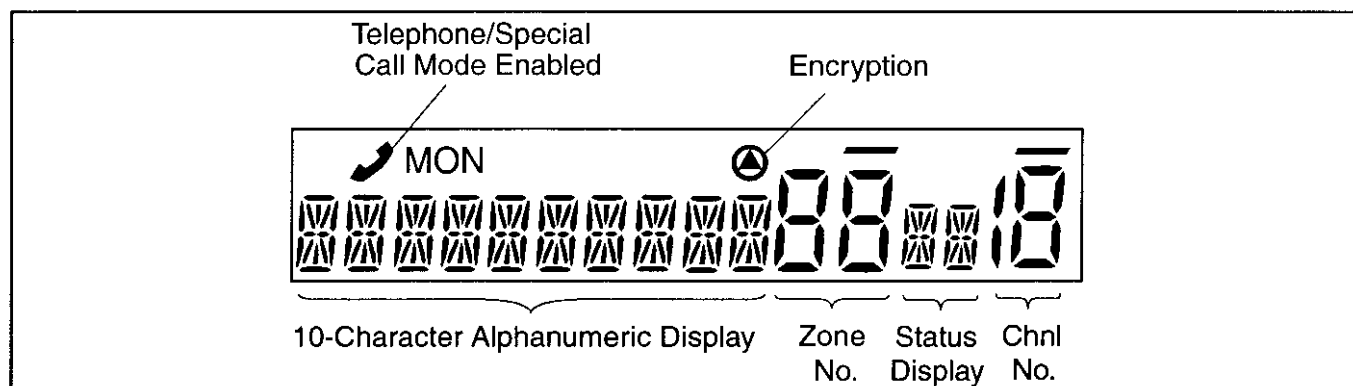

Figure 3-3 Front Panel Display
**Select Switch** - Selects zones/channels and is also used for other functions such as selecting names from a call list. When selecting zones/channels, a bar above the zone or channel display indicates which is currently being changed (see Figure 3-3). To switch this bar between displays, press this switch, and to select zones or channels, rotate it (see Section 3.3.5).
**Zone Number** - Indicates the currently selected zone from 1 up to 16 (see Figure 3-3). A zone is a collection of channels that can be any combination of the conventional and SmartNet/SmartZone types (see Section 1.2.4).
The selected zone and channel are displayed by the zone and channel displays shown in Figure 3-3. In addition, the unique alphanumeric identification (alias) programmed for the channel is displayed in the alphanumeric display area. With conventional operation, the channel frequency may be displayed (see Section 3.5.10). Refer to Section 1.2.4 for more information on zones and channels.